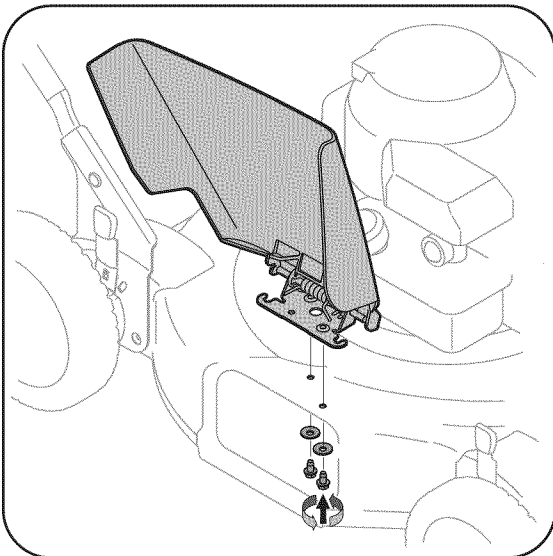

Figure 3-9: Install the chute deflector.
2. Secure with self-tapping screws and bell washers from underside of the deck and up through the chute deflector, Figure 3-9.